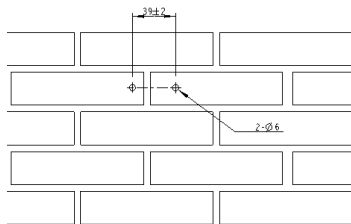

Fig 2-4 Drill the wall mounting holes
2) Drill two  $\phi 6$  holes on the wall with 39mm space distance as Fig 2-4